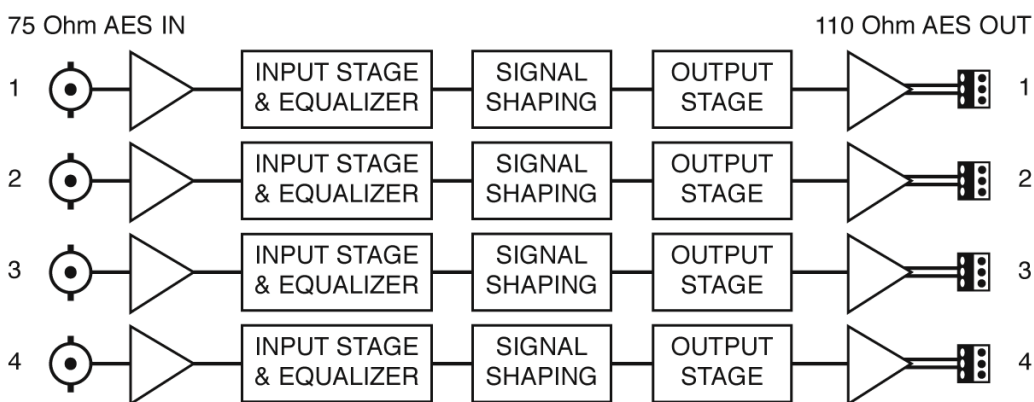

Figure 2. Simplified Block Diagram of AES-9523 Functions
2. Adhere the strip sets to the bottom side of the module as shown in Figure 2.